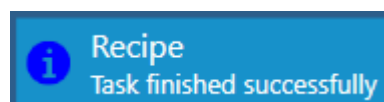

Figure 4-14 Recipe finished
- 14 Wait until the tool has processed the wafer. A **Task finished successfully** panel displays for a short time at the bottom right of the page, see Figure 4-14.